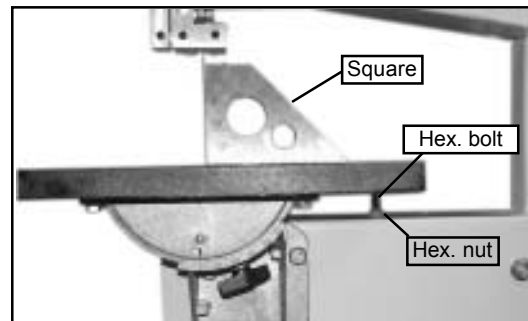

Fig.5
- Lock table into position and check that pointer reads zero degrees on side of trunnion. Loosen then screw securing pointer and reset if necessary to give zero degree reading (See Fig. 5).